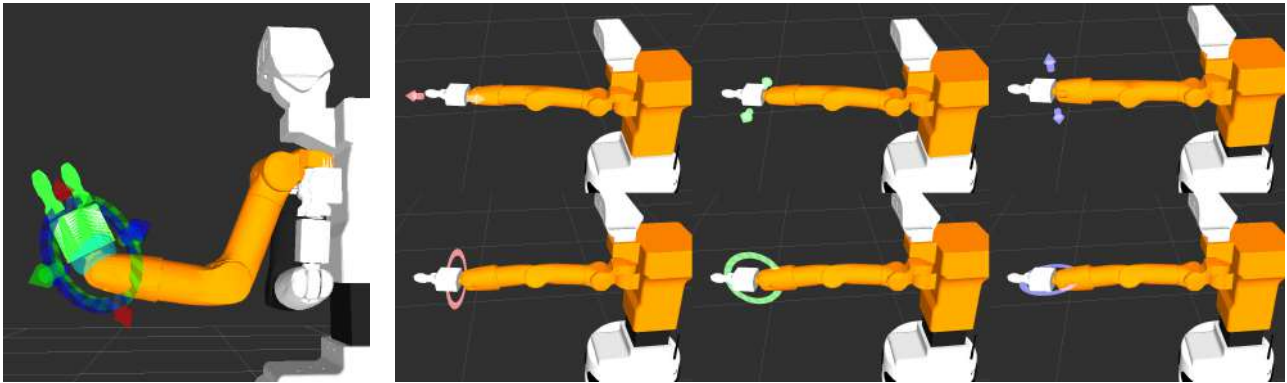

Figure 125: End-effector tool (left) and the usage of each DoF (right)
6. The GUI also allows the operator to define goal poses using the “flying end-effector” method. As shown in figure 125, the 6 DoF pose of the end-effector can be defined by using the visual marker attached. The red, green and blue arrows define the translation of x, y and z coordinates respectively, and the colored rings define the rotation around these axes following the same logic.